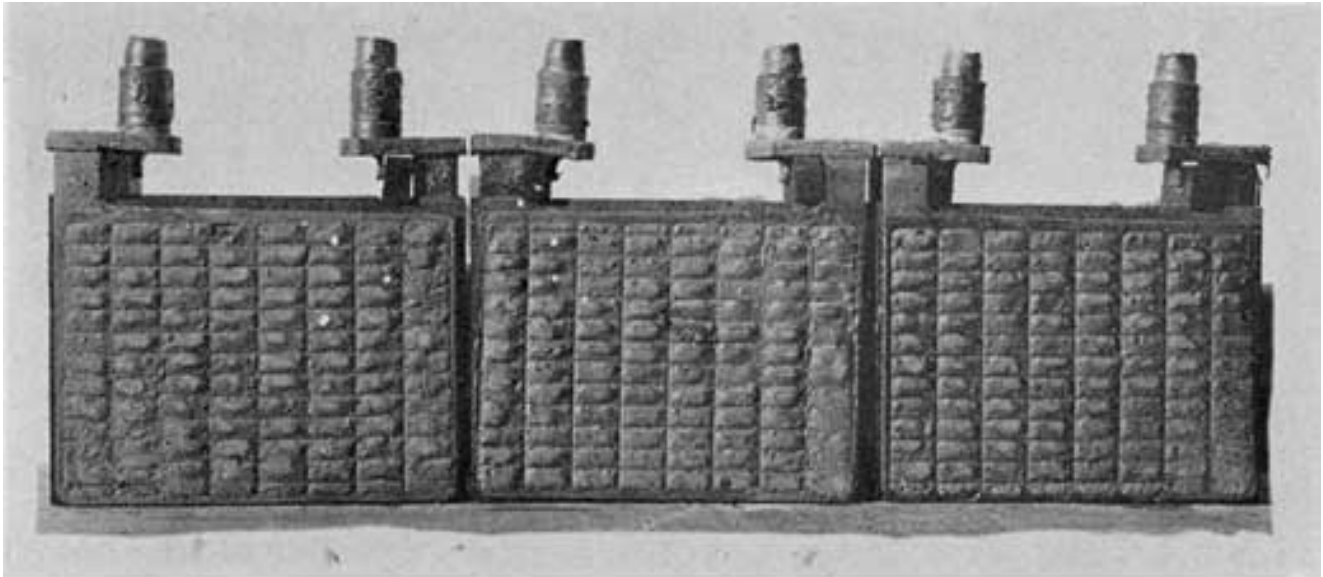

Fig. 213. Badly Bulged Negatives.
3. "Badly bulged negative plates, Fig. 213, cause lack of capacity because the active material is loose, and does not make good contact with the grids. If the active material is not badly granulated (having a grainy appearance) the plates can be used again. Sulphated negatives have very hard active material, and will feel as hard as stone when scratched with a knife. Hard negatives from which active material has been falling in lumps on account of being overdischarged after having been in an undercharged condition may be nursed back to life, if too much of the active material has not been lost.